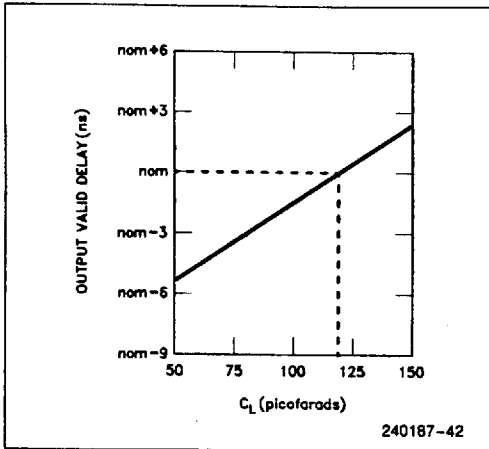

Figure 7.8. Typical Output Valid Delay versus Load Capacitance at Maximum Operating Temperature ( $C_L = 120$  pF)
4. Tested with  $C_L$  set at 50 pf and derated to support the indicated distributed capacitive load. See Figures 7.8 though 7.10 for the capacitive derating curve.